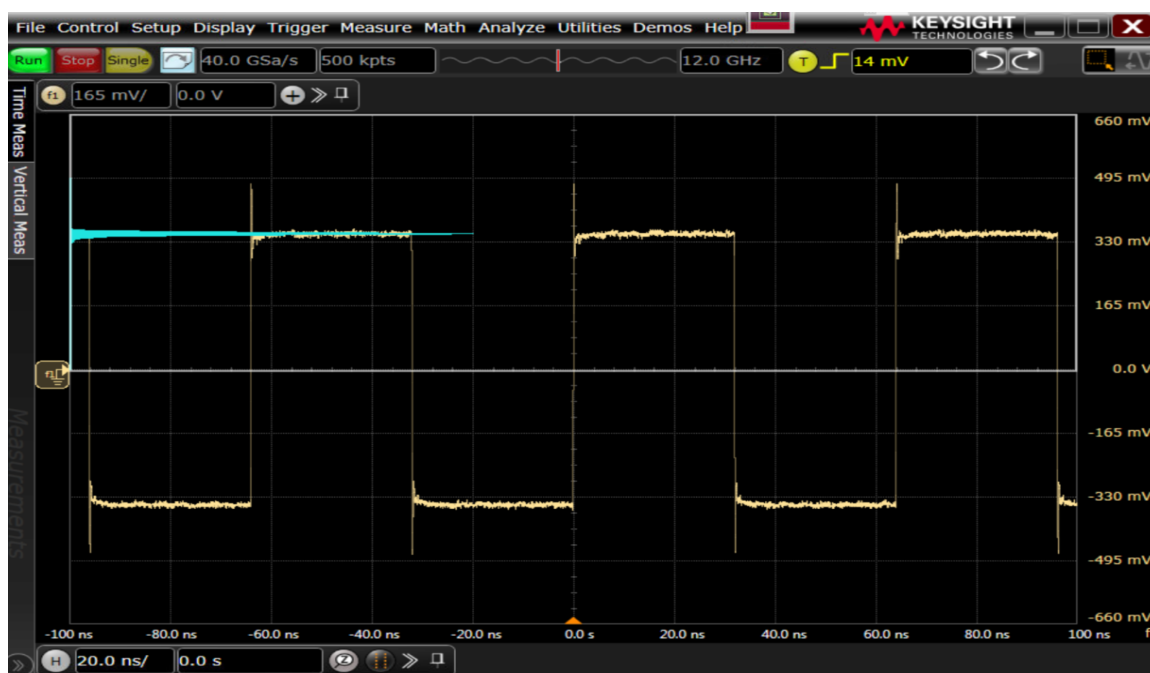

Figure 43 Measuring Amplitude using Histogram
- 12 The amplitude will be the Top reading - Base reading. See Figure 43, which shows an example for amplitude measurement using Histogram.